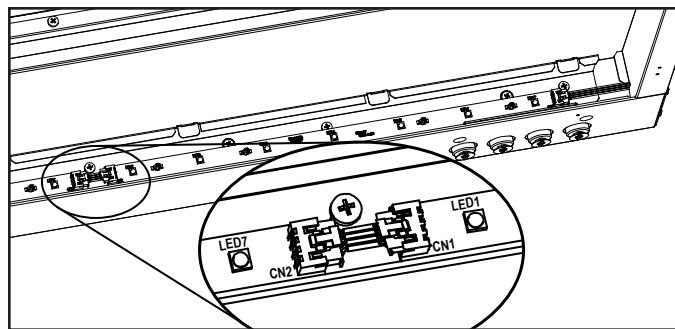

Figure 7 Unplug LED Light Board Cable
3. Unplug both ends of each wire harness connecting the LED boards together. See Figure 7.
NOTE: When connecting the LED boards, verify that the CN1 and CN2 ends are being connected together. See Figure 7.